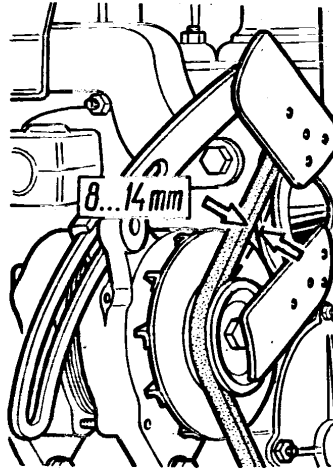

Fig. 18. Checking Fan
The causes of excessive temperature rise are: coolant level drop in the radiator, weak tension of the fan V-belt or driving with the shutters closed. To tension the fan drive V-belt (Fig. 18), turn the alternator. Normal deflection of the V-belt is 8 to 14 mm at 4 kgf.
3. Periodically check fan belt tension (Fig. 18).